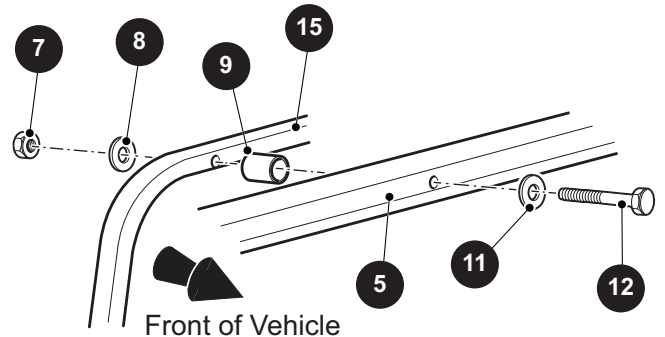

Fig. 2 Sun Top Front
2. Remove the nuts (7), bolts (12), washers (8, 11), and spacers (9) securing the sun top (5) to the front strut (15) (Ref Fig. 2).